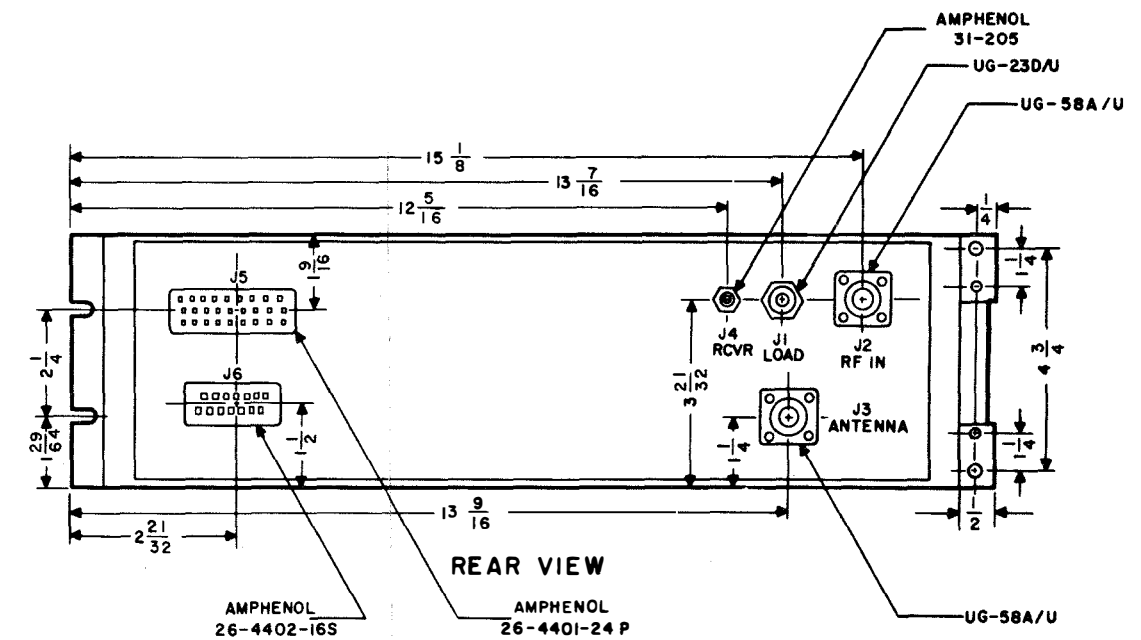

Figure 2-2. Coupler Control C-2698/SRA-22, Outline and Mounting Dimensions
b. **OUTLINE DRAWING.** - Figure 2-1 shows outline and mounting installation dimensions for the antenna coupler, and figure 2-2 shows outline and installation dimensions for the coupler control.